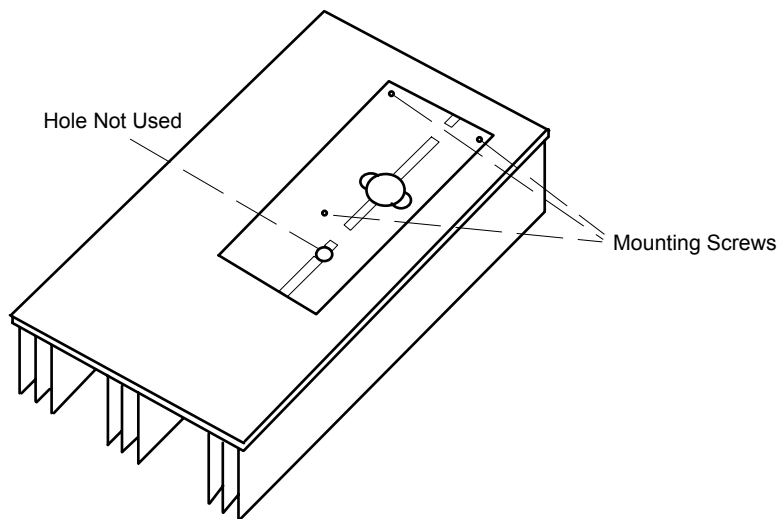

Figure 1. View of Heatsink
a. Set heatsink on bench, oriented as in figure 1. Note where PA transistor is to be mounted to two adjacent holes. Align the pc board with the heatsink, matching the cutout for the transistor and the pc board mounting holes with the holes on the heatsink. *Note that the heatsink is used for several products; so there may be extra holes to the left of the pc board which are not used in this model.*